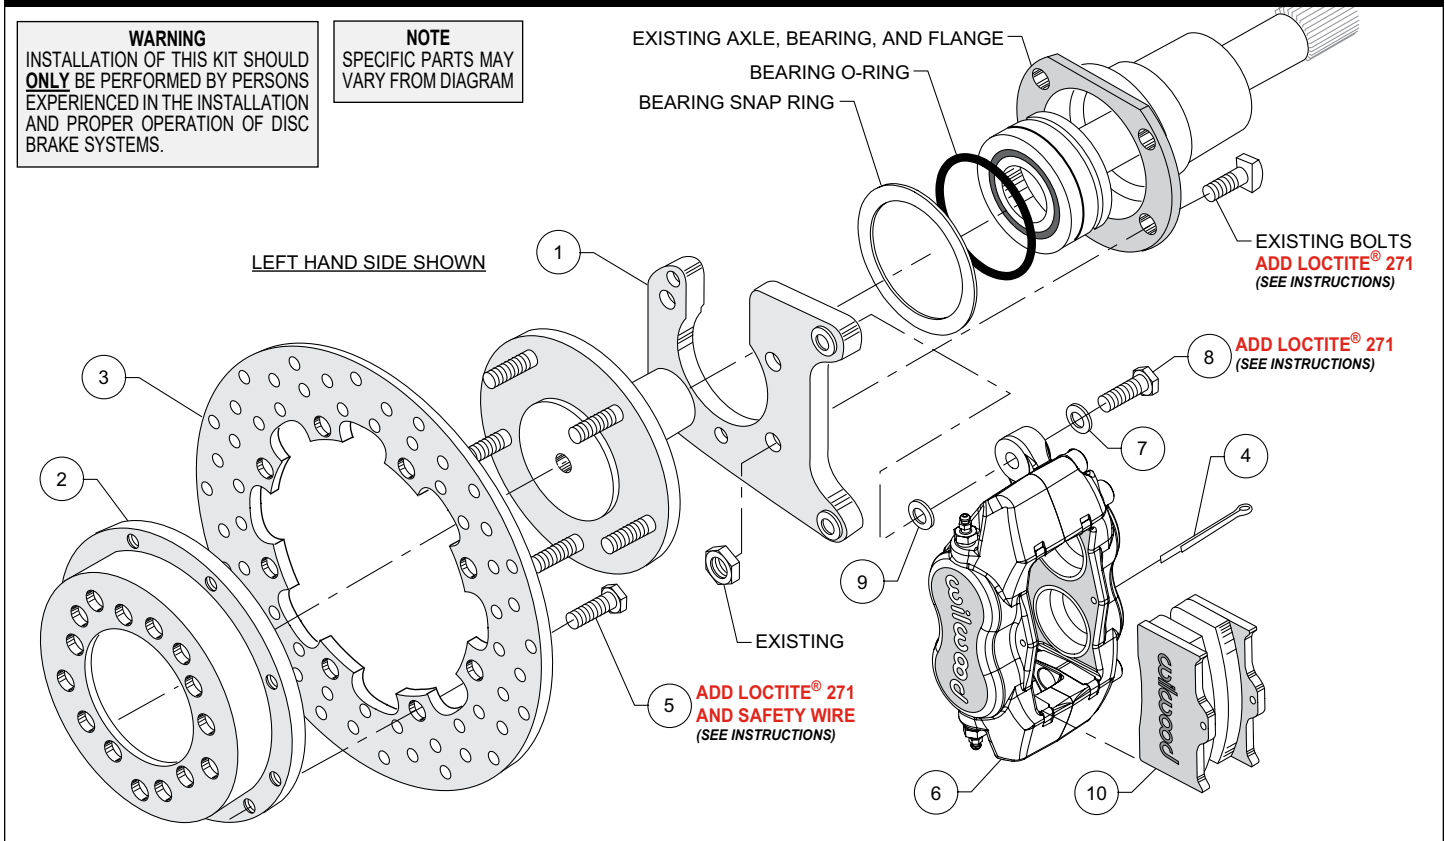
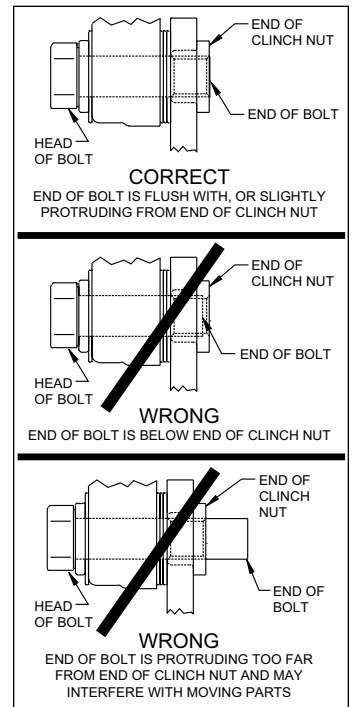

Figure 3. Typical Installation Configuration
Figure 8. Clinch Nut Engagement Diagram
**NOTE:** Numbers in parenthesis refer to the parts list and Figure 3 on the preceding pages.
**CAUTION:** All mounting bolts must fully engage clinch nuts. Be sure to check that all bolts are either flush or protruding through flanged side of clinch nut after shimming, Figure 8.
- Temporarily remove the snap ring and o-ring from the bearing. Use care so as not to damage those components. Orient the bracket assembly (1) as shown in Figure 3 and slide it onto the axle and past the bearing. Reinstall the snap ring and o-ring onto the bearing, again using care. Insert the axle and bracket assembly into the axle housing. Ensure that the bracket assembly plate fits flush against the axle housing flange. **NOTE:** The bearing snap ring should be sandwiched between the axle housing flange and the new bracket assembly, Figure 6. Secure bracket assembly to the axle housing flange using the Original Equipment Manufacturer (OEM) bolts and nuts, Figure 3. Stock OEM hex nuts that retain the bracket (1) should be on the wheel side of the bracket. Apply red *Loctite*® 271 to the OEM bolt threads and torque to OEM specifications. **NOTE:** Make sure the heads of the caliper mounting bracket insert nuts are FACING OUTWARD TOWARDS THE WHEEL.
- Orient the rotor (3) and the hat (2) as shown in Figure 3. Attach rotor to hat using bolts (5). Using an alternating sequence, apply red *Loctite*® 271 to the threads, and torque bolts to 25 ft-lb. Safety wire bolts (5) using standard 0.032 inch diameter stainless steel safety wire as shown in Figure 7. Please refer to Wilwood's data sheet DS-386 (available at [www.wilwood.com/Pdf/DataSheets/ds386.pdf](http://www.wilwood.com/Pdf/DataSheets/ds386.pdf)) for complete safety wire installation instructions.
- Align the correct hole pattern in the hat (2) with the stud pattern on the axle flange and slide into place, Figure 3. **NOTE:** The rotor/hat must fit flush against the axle flange or excessive rotor run out may result. Install three lug nuts (finger tight) to keep the rotor/hat assembly in place while continuing with the installation. **NOTE:** Some OEM and after market axles come with stud sizes larger than 0.50" diameter. Verify stud size and have a qualified machine shop drill the bolt circle of the hat/rotor to the correct stud size, if necessary.
•**NOTE:** Please reference the caution statement at the beginning of the assembly instructions. Mount the caliper (6) onto the caliper mounting bracket (1) using bolts (8) and washers (7), as shown in Figure 3. Initially place one .032" thick shim (9) on each bolt between the caliper and the bracket, Photo 1. Temporarily tighten the mounting bolts and view the rotor (3) through the top opening of the caliper. The rotor should be centered in the caliper, Photo 2. If not, adjust by adding or subtracting shims between the bracket and the caliper. Always use the same amount of shims on each of the two mounting bolts. **NOTE:** The end of each bolt must be flush with or slightly protruding from the head of the clinch nut, as shown in Figure 8. If necessary place spare shims between washer (7) and caliper mounting ear to achieve the proper clinch nut engagement. Once the caliper alignment and clinch nut engagement are correct, remove the bolts one at a time, apply red *Loctite*® 271 to bolt threads, and torque to 40 ft-lb. Caliper mount bolts may be safety wired for additional security.
•Install the disc brake pads (10) into the caliper, with the friction material facing the rotor (3), and secure in place using cotter pin (4), Photo 3.